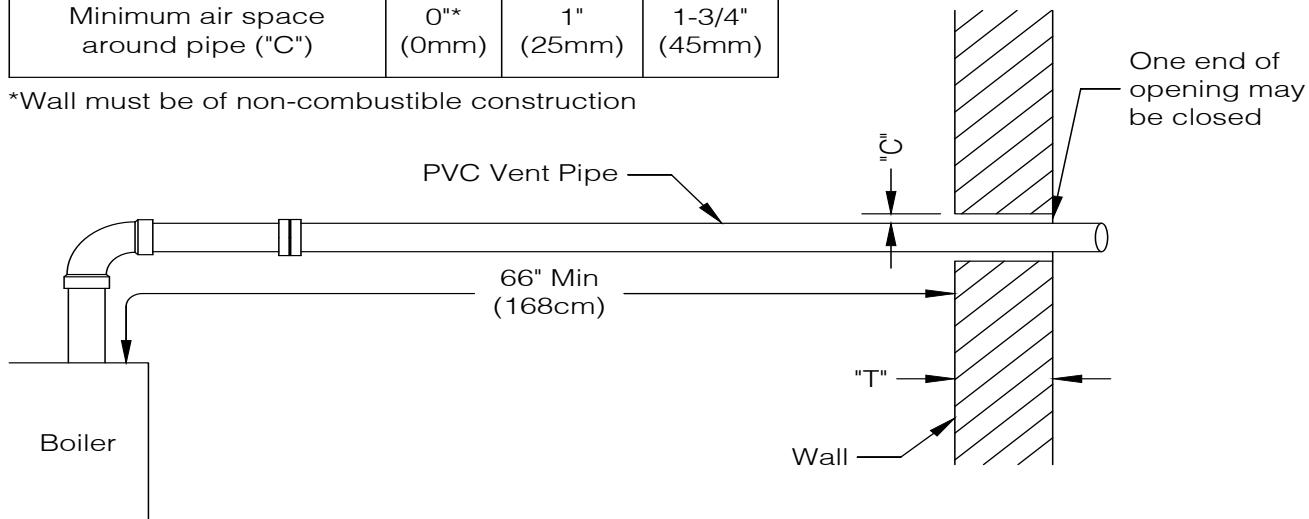

Figure 7-14: PVC Venting Wall Penetration Clearance
NOTICE: PVC may not be used to penetrate combustible or non-combustible walls unless all of the following conditions are met. If any of these conditions cannot be met, use CPVC for wall penetration. See Figure 7-14.
- Air space shown in Figure 7-14 is maintained around outside diameter of vent.